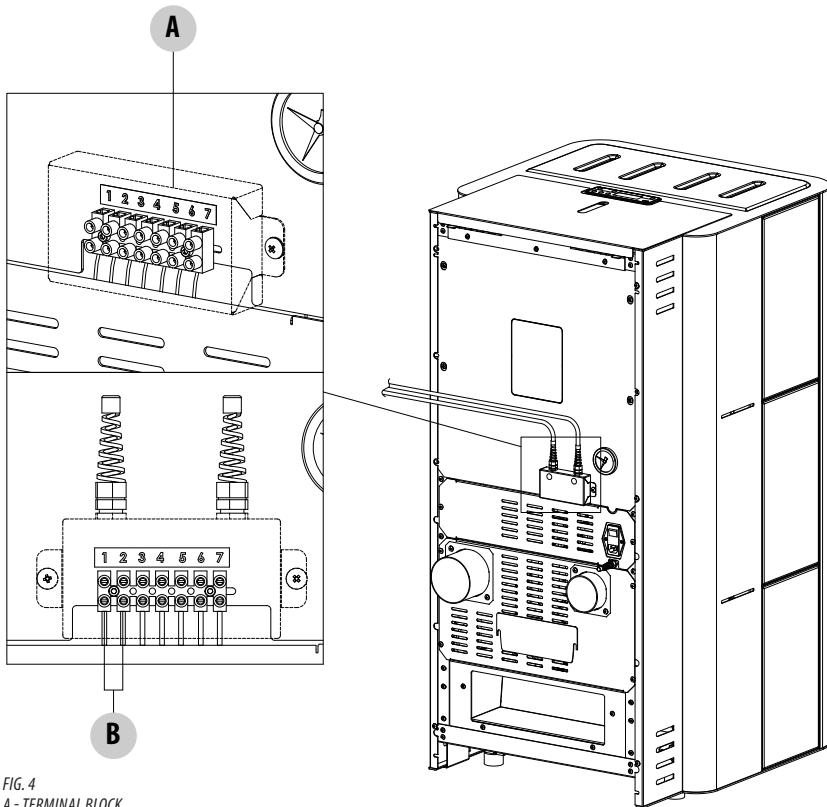

FIG. 4
- Where there is the terminal block, connect the cable between points 1-2 of the receiver and points 1-2 of the terminal block on the stove fig.4.